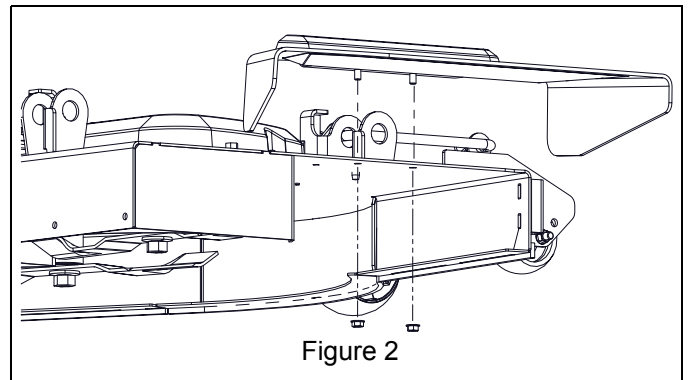

Figure 2
4. Remove two 5/16" locking top flange nuts retaining discharge chute assembly and remove discharge chute. Retain all parts for operation without mulch kit. See Figure 2.